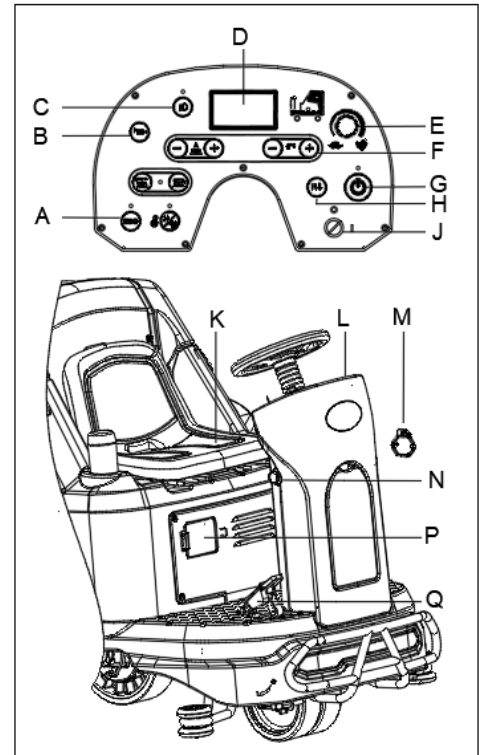

Figure 13
- Sit on the seat (K Figure13), insert the Ignition key (J Figure13) and turn it to "I". Check batteries status from display screen. If necessary to charge the batteries (see the procedure in Maintenance chapter).
The forward/reverse direction can be controlled with the switch (H Figure13). The speed can be adjusted with the adjuster (E Figure13).
- Press One-Start button (G, Figure13) to start the machine, the squeegee and brushes are lowered to the floor automatically, and the vacuum motor begins to work.
- Press the solution flow control buttons (F, Figure13) as necessary, depending on the type of cleaning to be performed.
- Depress the accelerator pedal (Q Figure13), and start cleaning.
- You can charge your phone or pad through USB charging port (M Figure13) when the Ignition key (J Figure13) is turned to "I".
- Press the horn button (B Figure13) to warn people when necessary.
- If necessary, press the emergency button (N Figure13) for machine emergency stop.
- If necessary, press the front lights button (C Figure13) for dark areas or to warn pedestrians.
- If necessary, adjust the seat (K Figure13) by turning right the handle on the right of seat, then slide the seat to proper position.
The brush motor, vacuum motor, drive motor and control circuit are protected by overload protector (P Figure13). When an overload protector trips, do not reset it immediately without finding out the root cause, and make sure the motor has cooled before reset.
- Release the accelerator pedal (Q Figure13), the machine stops running.
- Press One-Start button (G Figure13) to stop brushes and vacuum motor. The brushes and squeegee are lifted from the floor automatically. The vacuum system will turn off after a few seconds.